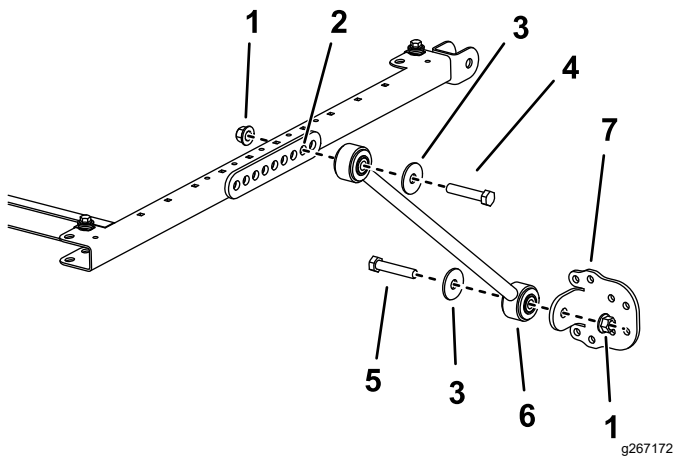

Figure 5
5. On each side of the sunshade frame, loosely mount a brace to the second hole of the brace mount with a bolt (1/2 x 2-3/4 inches), washer (1/2 inch), and flange nut (1/2 inch) as shown in Figure 5.
- Loosely install a brace bracket to each brace with a bolt (1/2 x 2-1/2 inches), washer (1/2 inch), and flange nut (1/2 inch) as shown in Figure 5.